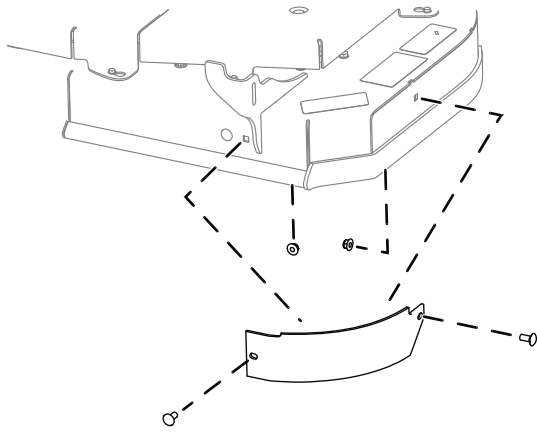

Figure 1
2. Remove the 2 bolts and 2 nuts securing the baffle to the deck and remove the baffle (Figure 1).